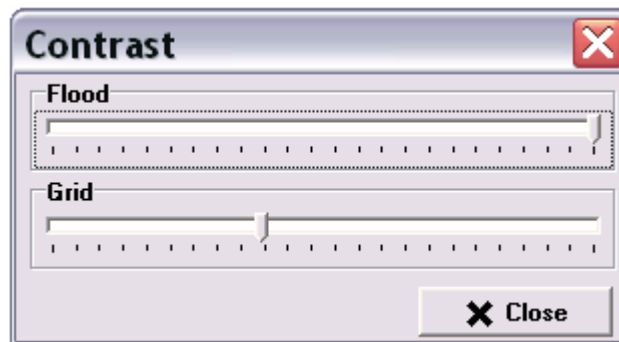

Fig. 10
- *Contrast* allows the user to change the saturation of the flooding colors and contrasts (from Black to Light Gray) of *Grid* lines (see Fig. 10).